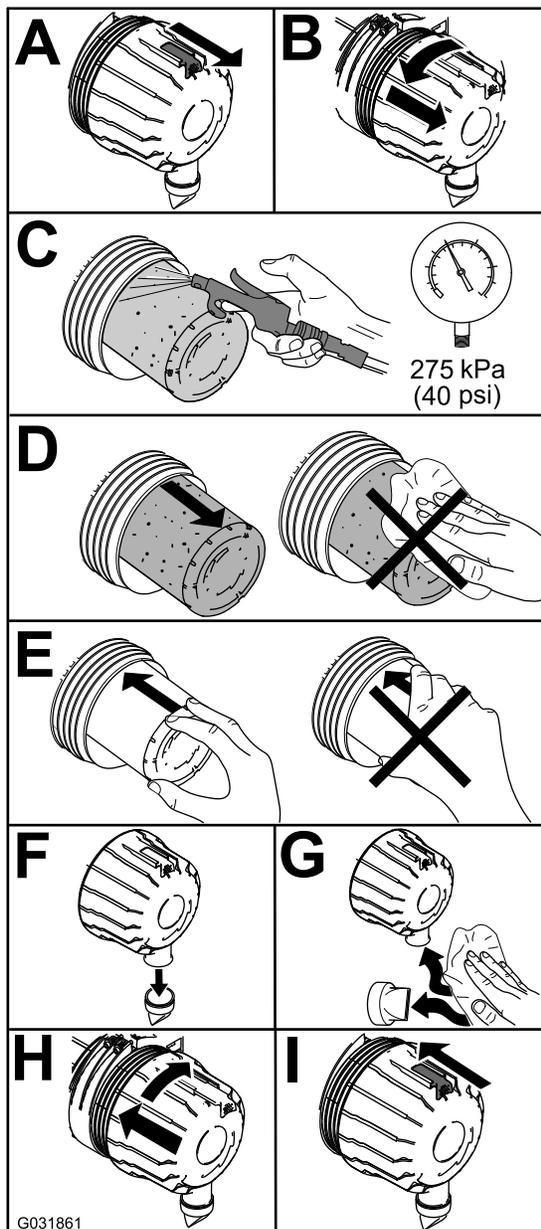

Figure 79
1. Replace the air cleaner (Figure 79).